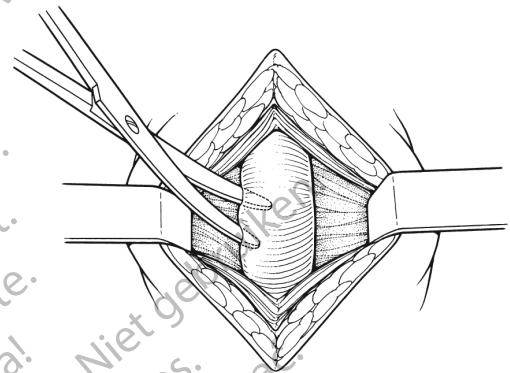

Figure 4-6. Dissect Bulbocavernosus Muscle
2. Make a midline perineal incision and bluntly dissect bulbocavernosus muscle from around the bulbous urethra. (Figure 4-6)